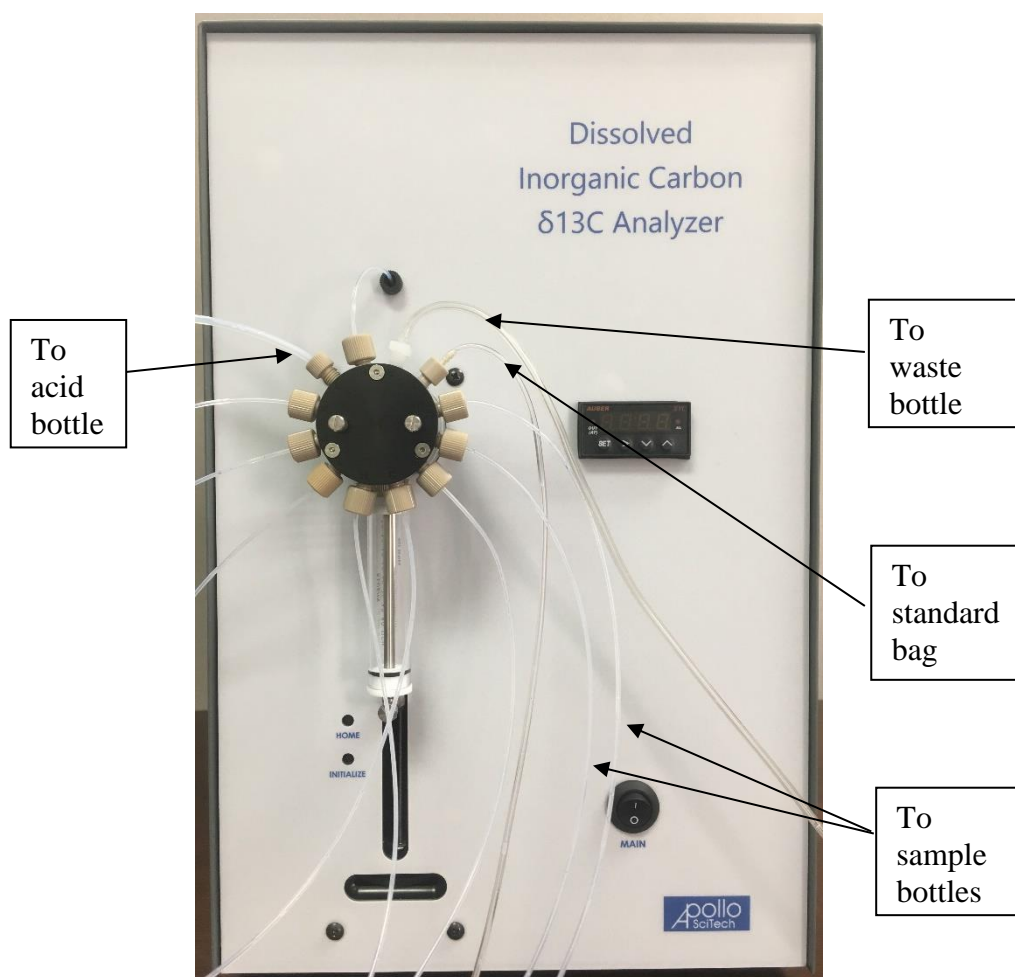

Figure 2. Front view of the AS-D1 analyzer with connection diagram
**B.1.3.** Waste solution containers: Since the Analyzer discharges before and after each measurement, place a container, e.g., a bottle of 1 to 5 L, behind the Analyzer and run the waste tubing into the container. Put a 1-L container in front of the analyzer to collect the waste from port B (cf. Fig. 2 and section B.4), as the lines are cleaned before each analysis. Or run both waste tubes into the same waste solution container.
Attach 1/32" ID Tygon® tubes to port C – K of the digital syringe on the Analyzer. Connect port C to the standard solution bag and D – K to 8 different samples (see Fig. 2).